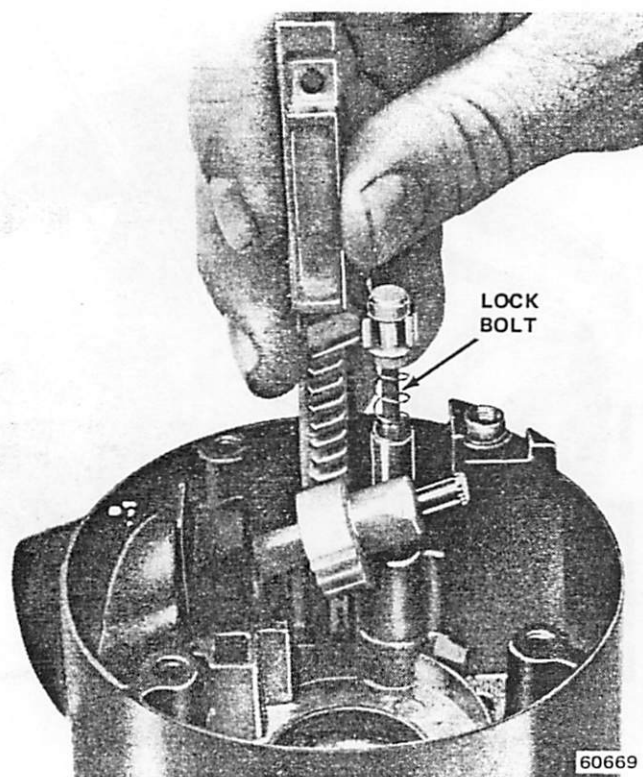

Fig. 2J-14 Lock Rack and Lock Bolt Removal
(27) Remove column from vehicle, if necessary, and mount column in vise using Support Fixture Tool J-23074 (fig. 2J-5).
(28) Remove steering shaft if not removed previously.